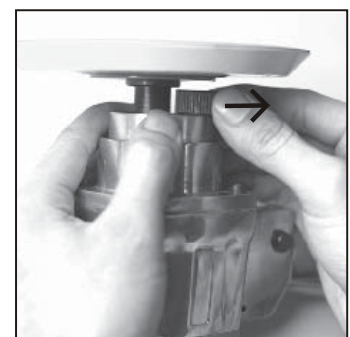

Figure 3
4. Disengage the ribbed side of the lever (#38) from the bearing seat (#46) so that the bearing seat can move freely. (See figure 3)